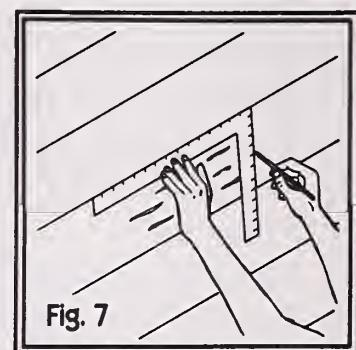
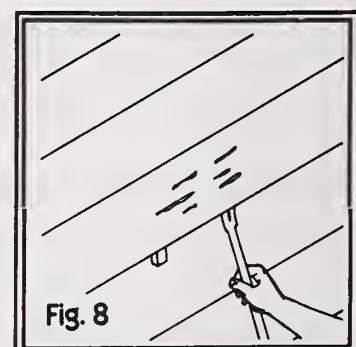

Fig. 7
Fig. 8
1. Using the square, mark the board for cut lines (fig. 7). Pry up the bottom edge of the board and insert wedges underneath (fig. 8).